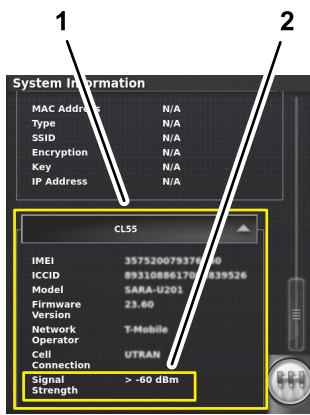

Figure 208
- In the system information screen, use the scroll bar to navigate to the CL55 icon (Figure 208).
3. Press the CL55 icon to display the signal strength information.(Figure 208), and verify that the modem signal strength is between -60 dBm and -99 dBm.